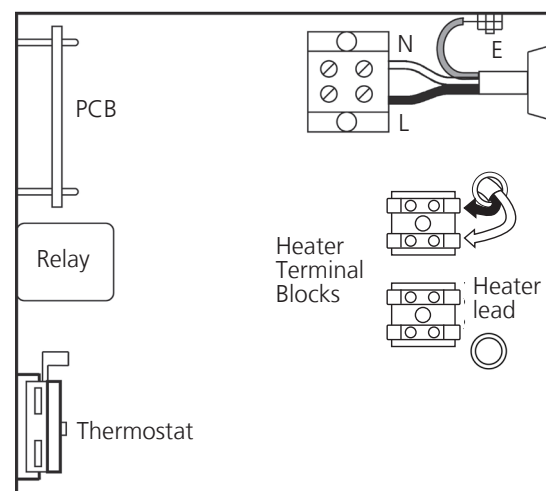

Fig. 1b
17. Thread the two heater connectors through the hole into the electrical control compartment and connect to the heater terminal block. Brown to Brown, Blue to Blue, (Fig. 1b).